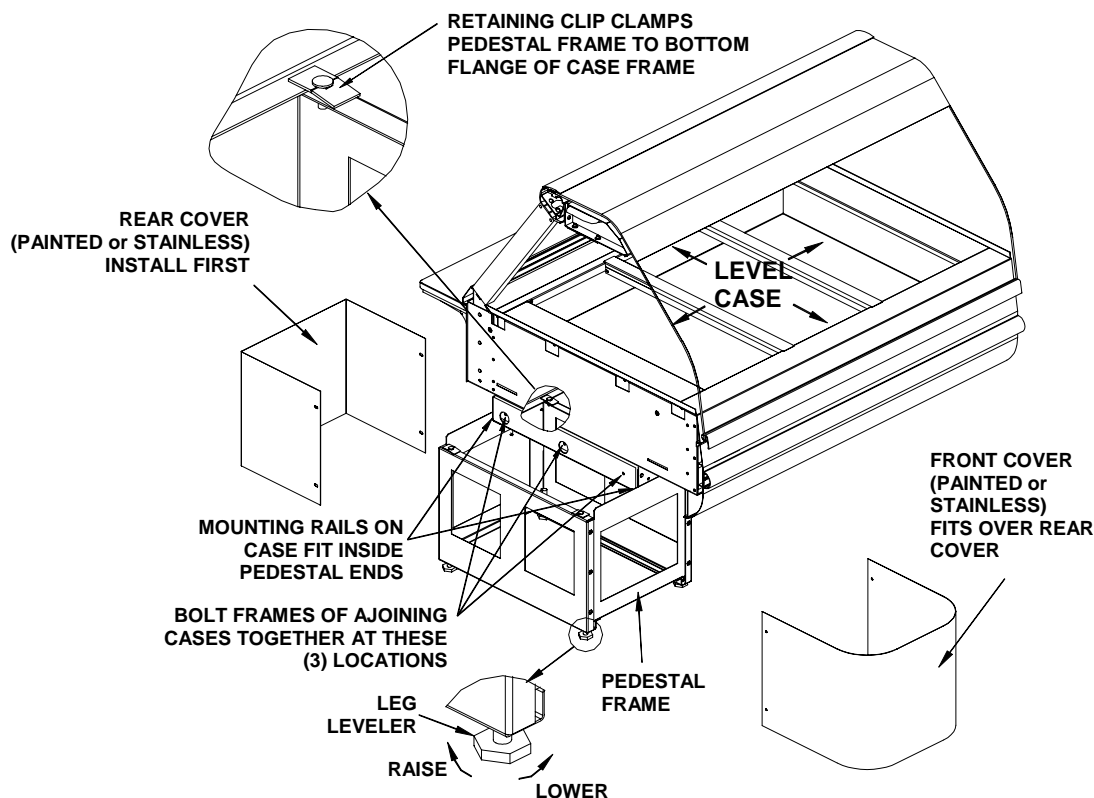

Figure 3. Pedestal Model - Leveling and Cover Attachment
Deli cases must be installed level to insure proper operation and alignment to adjoining equipment. Use a carpenter's level as shown in Figure 3. Begin lineup leveling from the highest point of the store floor.
1. Level the case using the leg levelers at the corners of the pedestals (see Figure 3).
6. When level, bolt the two cases together at the locations shown in Figure 3. If the cases have been properly leveled, the front panels and counter tops should align with a small, uniform gap between the front panels of the two cases.
1. Slide the Rear Cover over the Pedestal Frame first (see Figure 3). Then slide the Front Cover over the Frame with the sides of the Front Cover lapping over the side of the Rear Cover. The Front Cover will extend approximately 4-1/2" from the front of the frame.
Counter Mounted cases must be mounted on a level surface that can support the weight of the case and its contents. Use a carpenter's level as shown in Figure 3 to level the case.